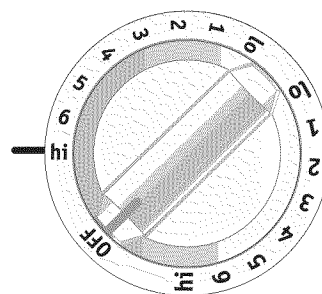

Figure 2
The cooktop is equipped with one or two dual radiant surface element. Symbols around the knob are used to indicate which coil of the dual radiant element will heat. The small digits on the control knob indicate that only the inner coil will heat (Fig. 2). The large digits on the control knob indicate that both inner and outer coils will heat (Fig. 3). You may switch from either coil setting at any time during cooking.
2. Push in and turn the control knob as shown in Figure 2 for smaller cookware or in Figure 3 for larger cookware.